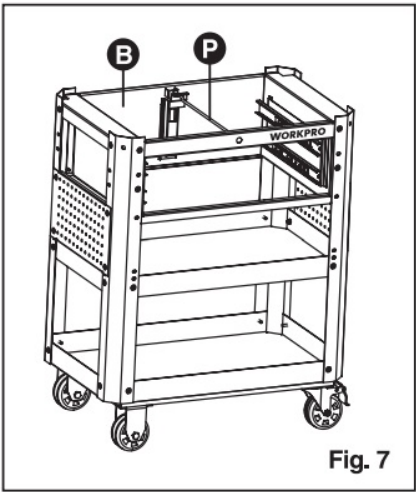

Fig. 7
- Install the curved end of locking lever (P) into the two holes of back rail (B) (Fig. 7).
- Insert the lock(O) in the hole of the front rail (D), and insert the locking nut (Q) across the lock, then connect with the other end of locking lever (P).